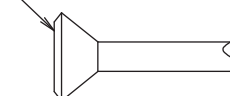

Fig. 13
- When connecting the flare nut, coat the flare section (both inside and outside) with ester oil or ether oil, rotate three or four times first, then screw in. **(Refer to Fig. 13)**